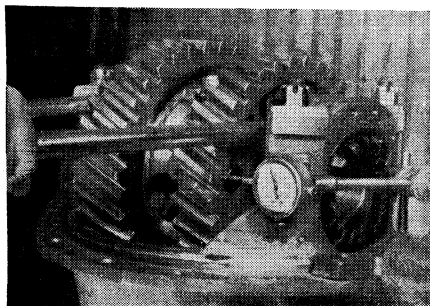

Fig. 50 Using dial indicator at side face of spur gear to check for end play of differential bearing
- Using dial gauge at side of spur gear, Fig. 50, adjust differential assembly to zero end play in the differential bearings.